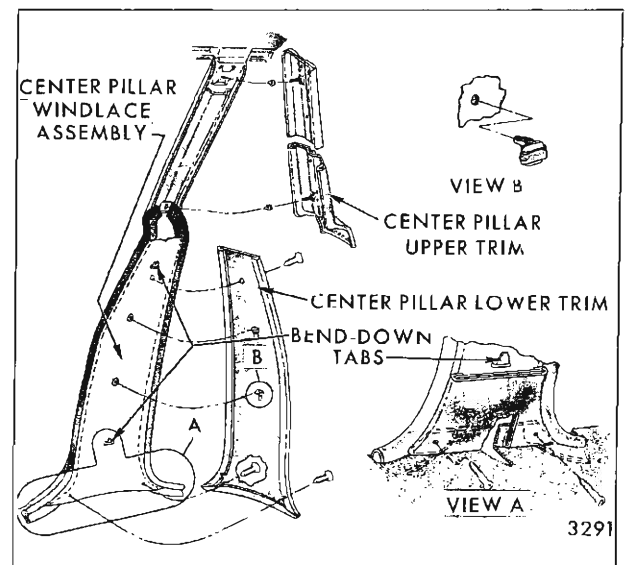

Fig. 14-39—Center Pillar Trim - "A-B-C and X" Four Door Closed Styles.
1. Remove center pillar upper trim by removing exposed screws if present. If no screws are present, gently pry upper trim serrated attaching nails from center pillar panel (Fig. 14-39).
3. Remove all exposed screws from center pillar lower trim and gently pry attaching clips from center pillar attaching holes. (See Fig. 14-39.)
**NOTE:** Center pillar windlace is attached to foundation board as a separate assembly. To remove assembly, after center pillar lower trim is off, straighten bend-down tabs through foundation board and lift away (Fig. 14-39).